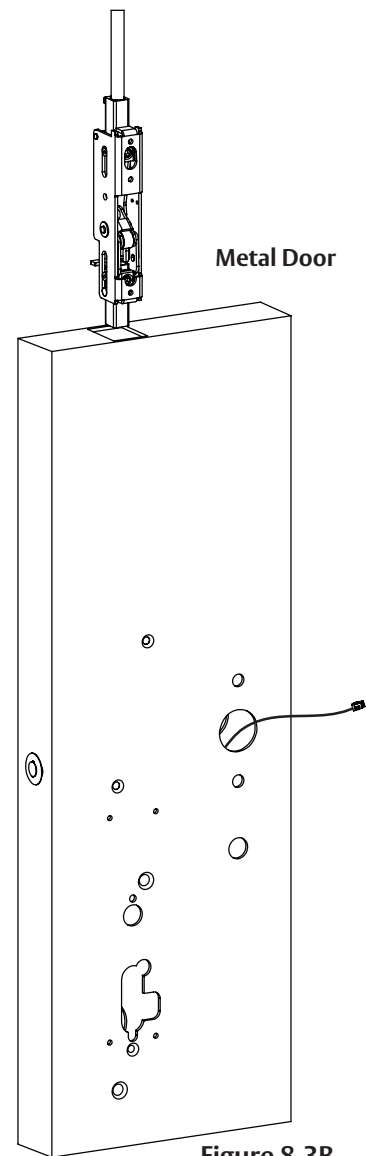

Figure 8-3B
2. Slide rod assembly into door and secure with #10-24 x 3/8" screw for top inner case assembly and #10-24 x 1/2" screw for bottom inner case assembly (Figure 8-3B).